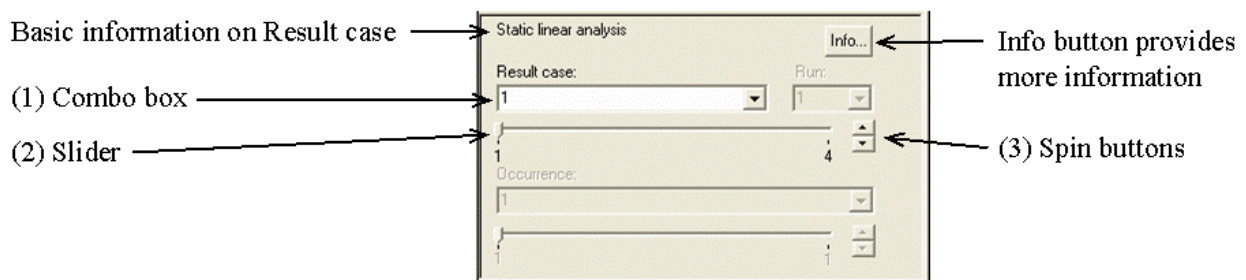

Figure 3.22 Result case selection in three alternative ways – Info button for result case information
Now we want to view results for another result case. At the bottom of the Database window (Result Cases tab) you may select a new result case in three alternative ways: (1) through the Result case combo box, (2) through the Result case slider and (3) through the Result case spin (up/down) buttons. See Figure 3.22.